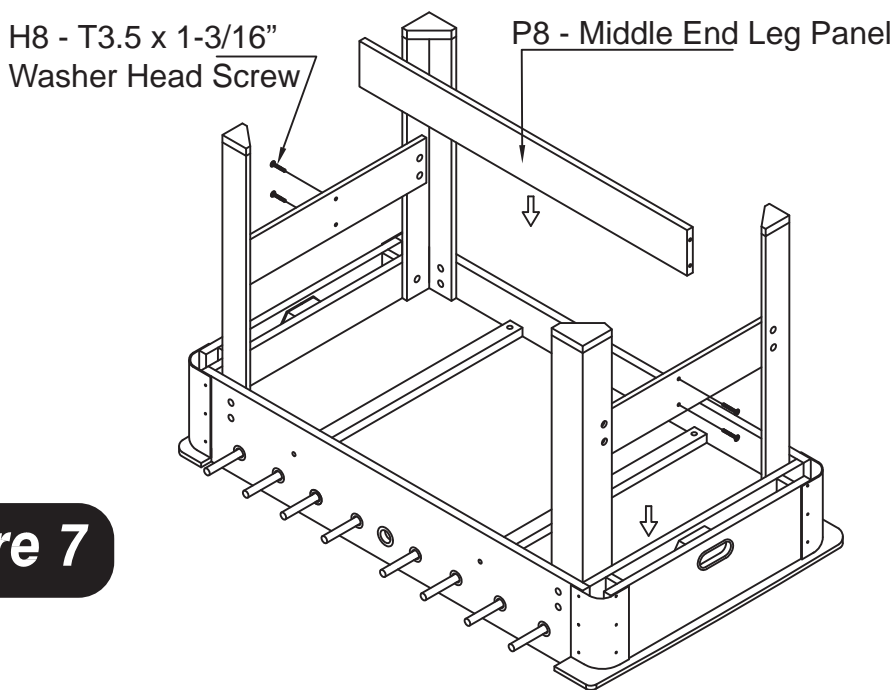

Figure 7
12. Attach Middle Leg Panel **P8** to End Leg Panel **P7** using Washer Head Screw **H8** as shown in **FIGURE 7**.